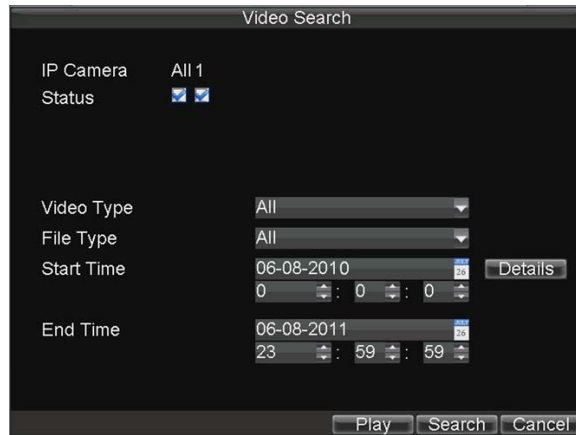

Figure6. Video Search Menu
1. Click Menu > Video Search to enter the Video Search dialog box, shown in Figure 6.